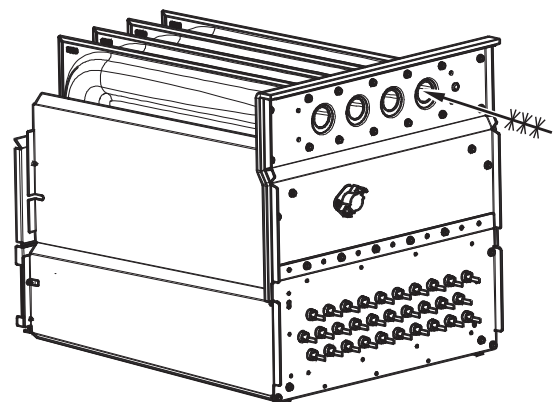

Fig. 69 – Cleaning Heat Exchanger Cell
7. Clean heat exchanger openings with a vacuum and a soft brush. See Fig. 69.